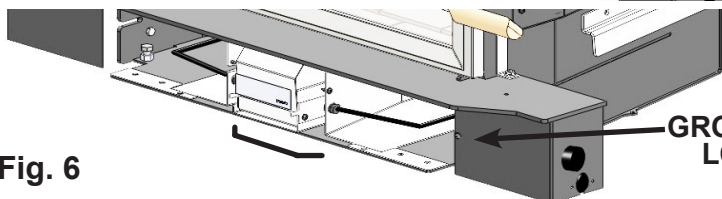

Fig. 6
4. Locate the remaining, loose wire connectors of the power cord, fan interconnect, and rheostat and connect according to wire labels (refer to "ELECTRICAL CONNECTION" section). Secure the ground wire of the powercord to the lower shroud by fastening the supplied ground screw into the ground hole. (Fig. 6)